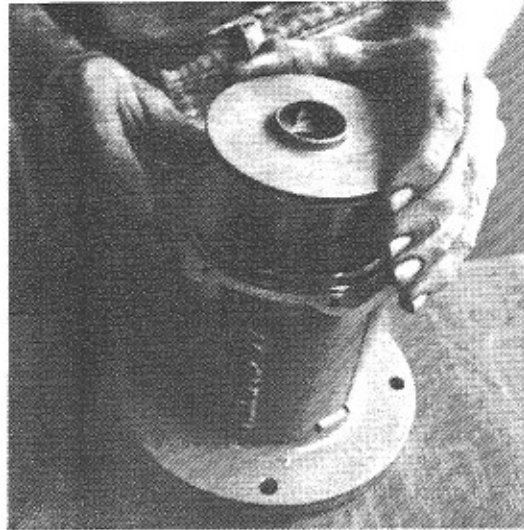

Figure 28
- A. Slowly center the inner magnet assembly (Part No. 65) into the rear casing (Part No. 4) [Fig. 28].